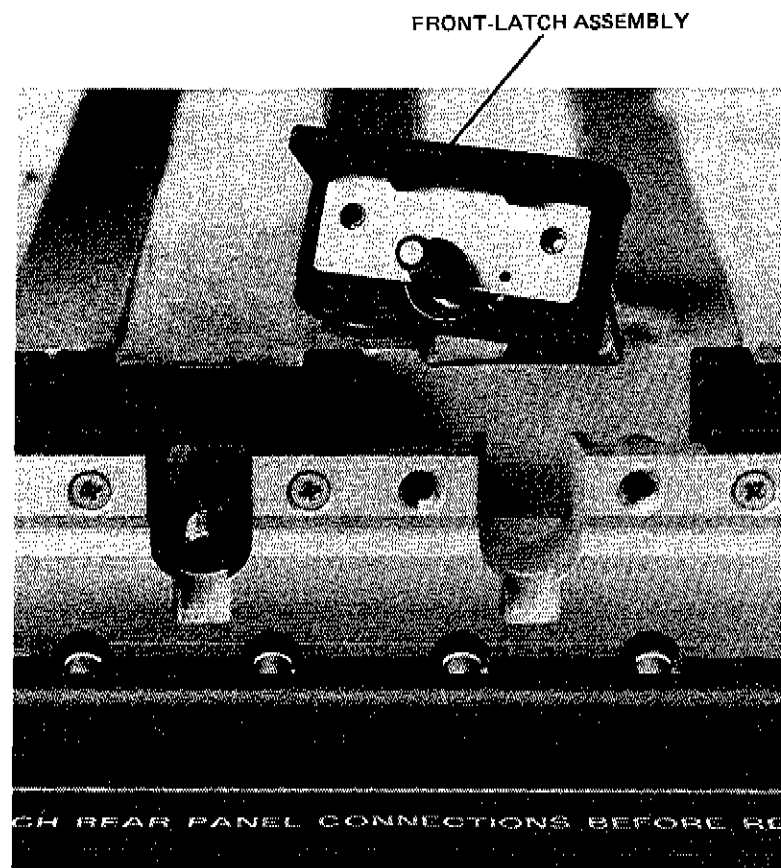

Figure 7. Module Latch Screw Assembly
2. Remove two screws retaining Module Latch Screw assembly (refer to Figure 7).